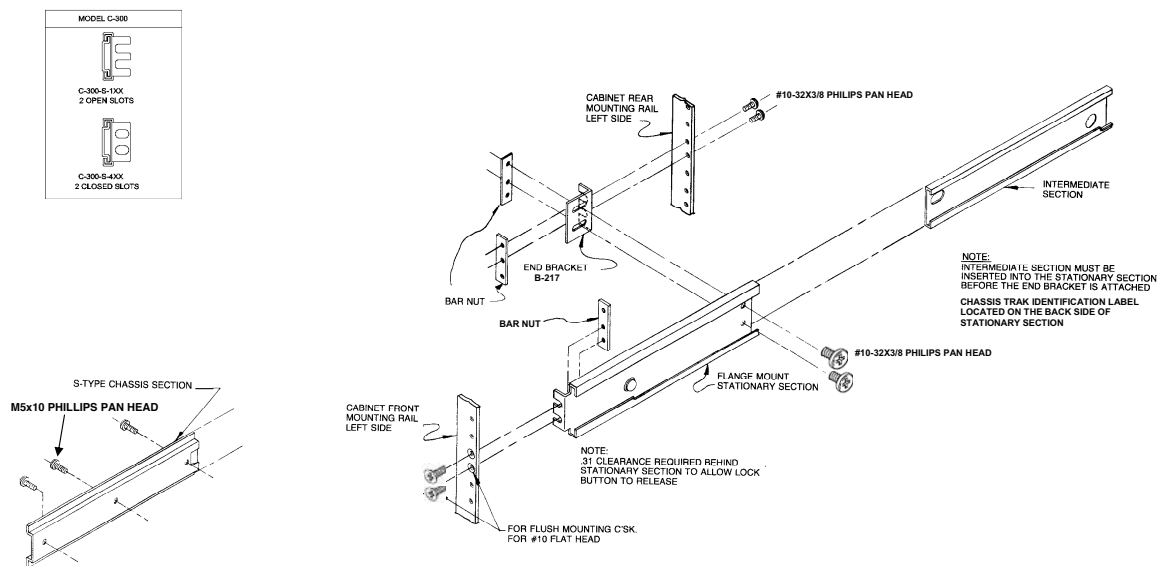

Figure 1
- When mounting slides to the cabinets front left and right side rails we recommend using flush mounting for either #10 or M5 flat head screws. This allows sufficient room for the plotter's compression latches to properly latch to secure the plotter chassis to the cabinets front left and right side mounting rails. (See Figure 1)